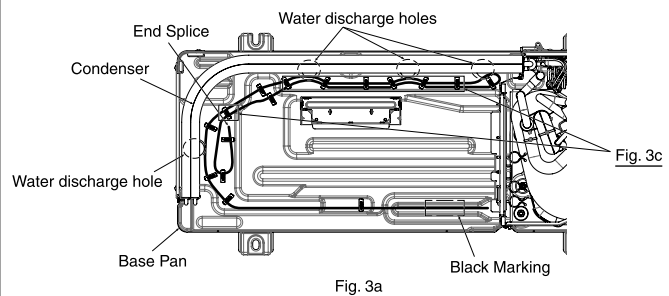

Fig. 3a
- Begin guiding the heating cable from the end splice as shown in Fig. 3a. Fix the cable with band 2 at 16 locations. Make sure the heater is installed as close as possible to the condenser and the water discharge holes. (Fig. 3a, 3b and 3c)